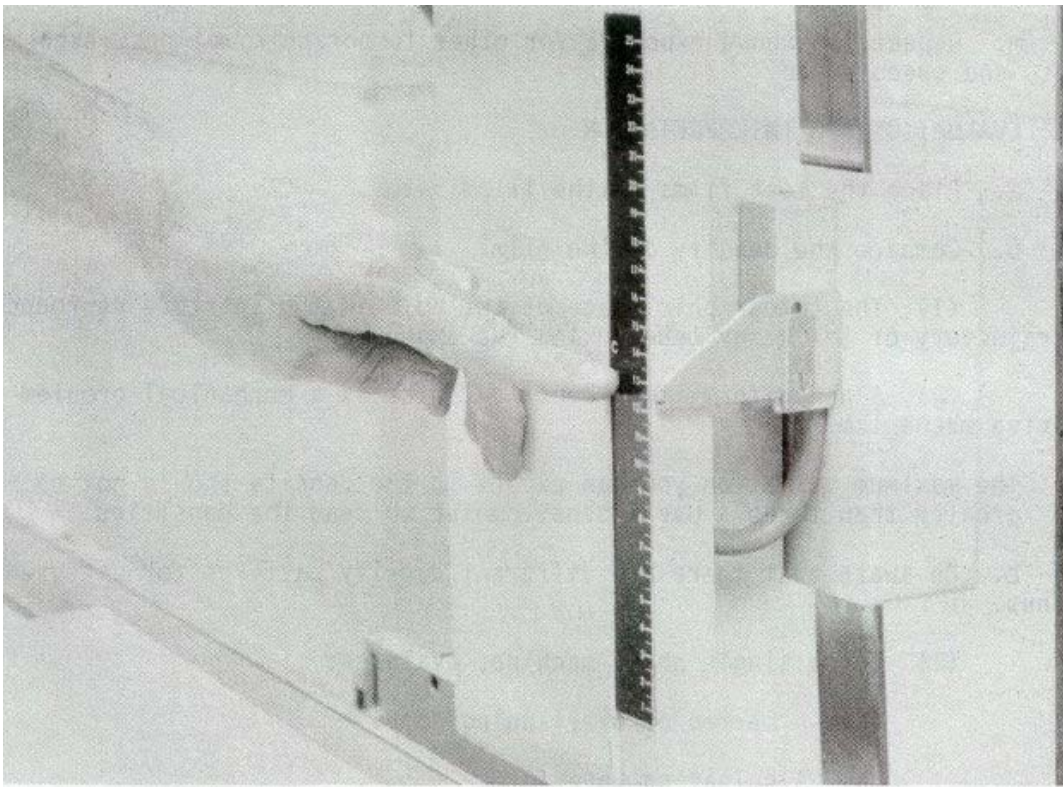

Figure 6-7. Cut level indicator set at 12 cm.
- (1) Tomographic motion.
- (2) Exposure angle.
- (3) Sweep speed.
- h. Select an indicator level of 12 cm (see figure 6-7).